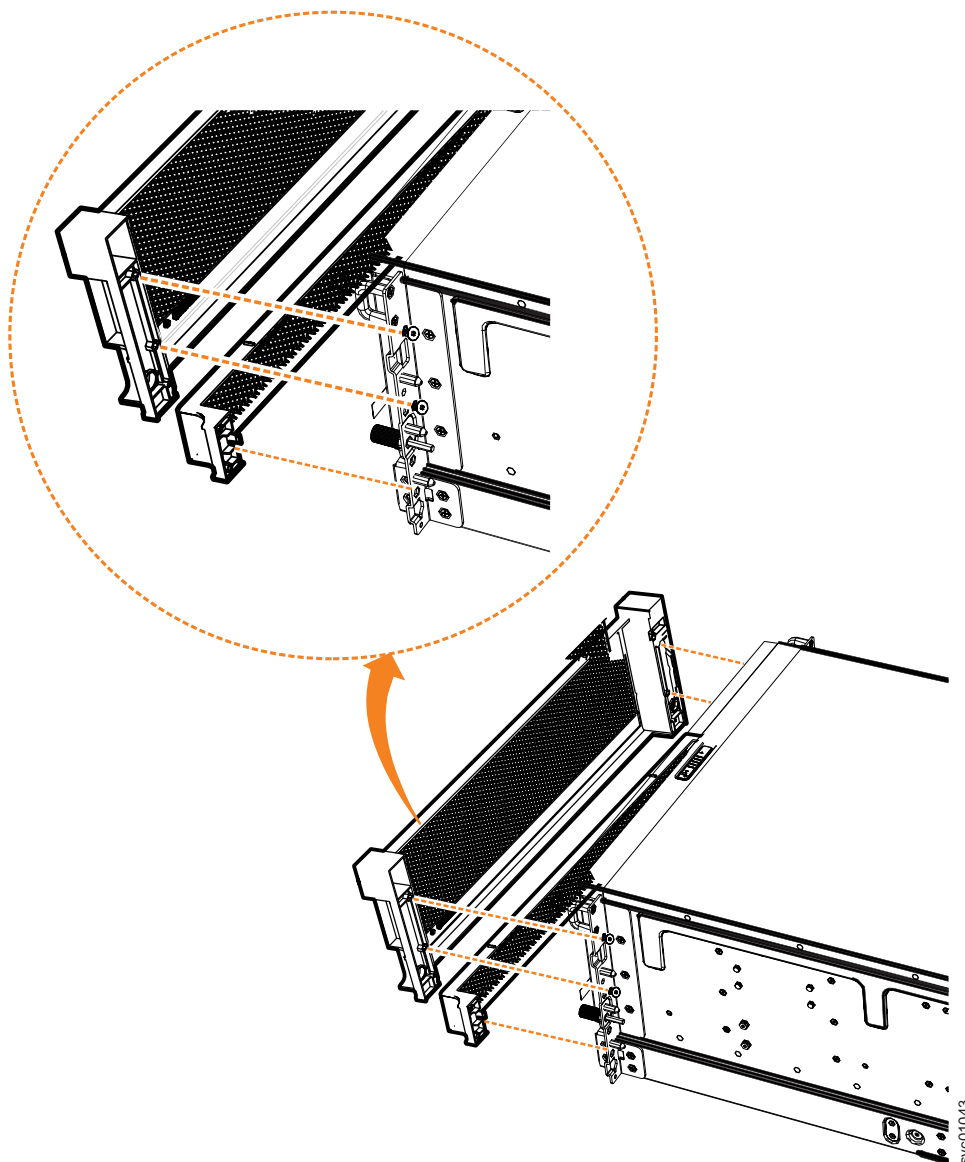

Figure 74. Remove fascia components from the expansion enclosure
2. Remove the front fascia by removing the two screws that attach the fascia to the flange on each side of the chassis, as shown in Figure 74 on page 89.
3. Gently pull on each side of the PSU fascia to remove it from the chassis, as shown in Figure 74. The PSU fascia will disengage from the slot and pin that connect it to each side of the chassis